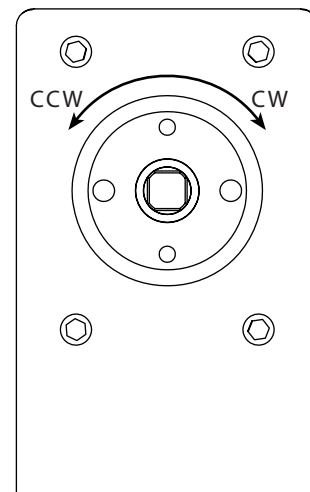

Figure 8: Actuator orientation for directional references
1. Make sure that the valve is mounted on the actuator with the stop pin all the way against the Position A stop. You can check by loosening the clamp ring and turning the valve counterclockwise by hand, then tightening the clamp ring. (For orientation, refer to the **Figure 8** at the bottom of the next page.) If it will not move, it was already against the stop.